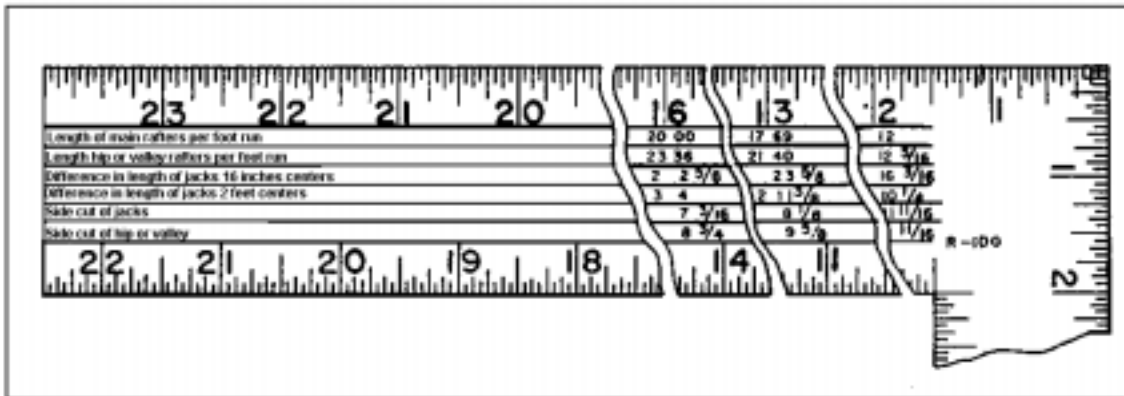

Figure 051-236-1144-3
- (1) Use the framing square method with printed rafter table.
- (d) Multiply the unit of rise by the total run. Convert the decimal into sixteenths of an inch by multiplying the decimal number by sixteen. If the number to the right of the decimal is greater than 5, round up to the nearest sixteenth. If the number to the right of the decimal is less than 5, round down to the nearest sixteenth (Figure 051-236-1144-3).